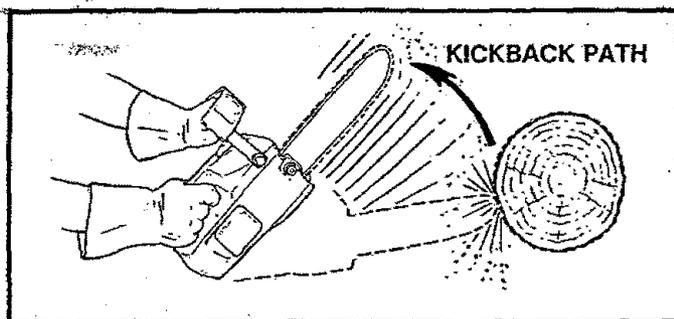

Figure 20
- Avoid letting the moving chain contact any object at the tip of the guide bar. Figure 20.